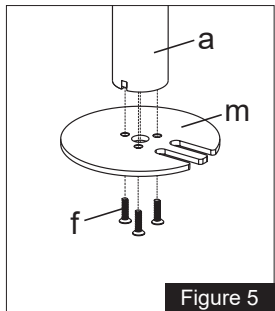

Figure 5
2. Install the Grommet Base Plate (**m**) to the Pole (**a**) using 3pcs M5x14 Bolts (**f**), and tighten using the Allen Key (**o**), see *Figure 5*.